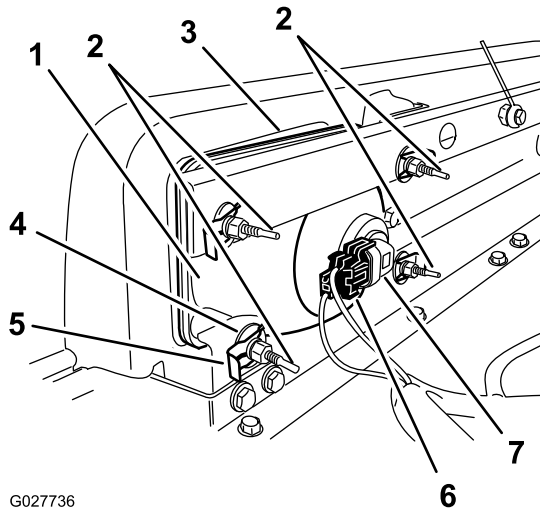

Figure 41
8. Connect the electrical connector for the harness to the connector of the lamp assembly (Figure 41).
2. At the back of the headlight assembly, rotate adjustment screws (Figure 41) to pivot the headlight assembly and align the position of the cast beam.
3. Disconnect the electrical connector for the harness from the connector of the lamp assembly (Figure 41).
4. Remove the speed clips and washers that secure the headlight to the headlight bracket (Figure 41).
5. Remove the headlight assembly by moving it forward through the opening in the front bumper (Figure 41).
6. Install the new headlight through the opening in the bumper (Figure 41).